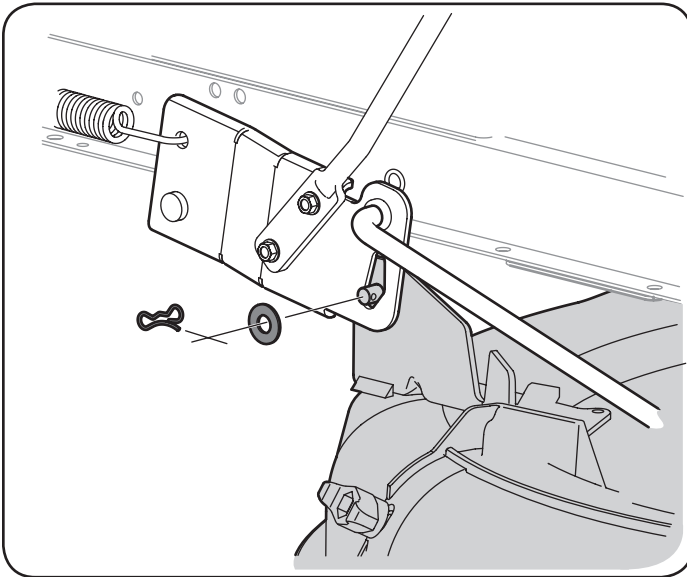

Figure 39
4. Remove the bow-tie cotter pin and flat washer from the deck lift assembly, and retain for reinstallation later. See Figure 39.